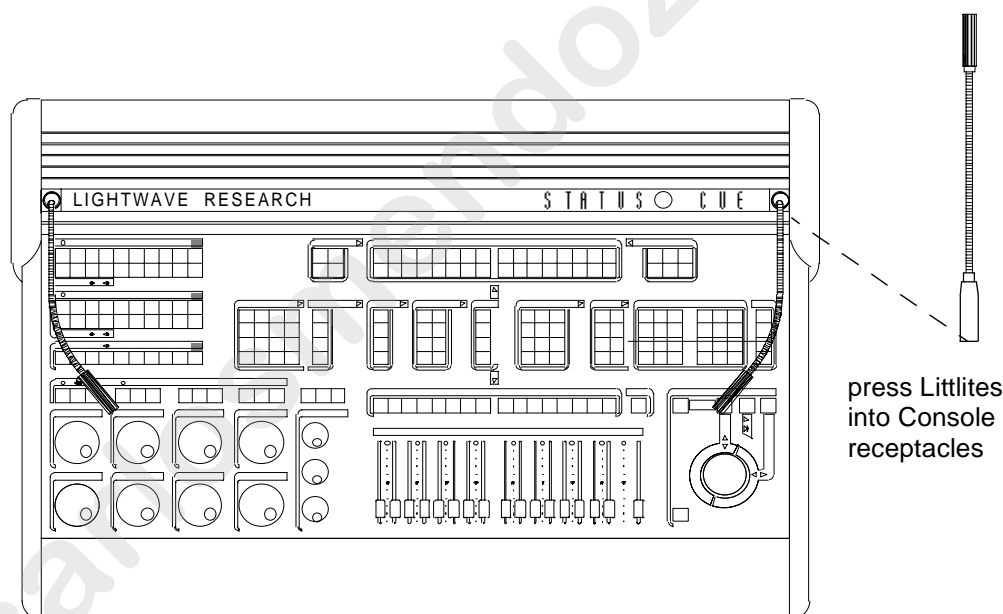

Figure 1.9. Littlites Attached to Console
2. Align the three pins on the Littlites with their female receptacles on the Console and press the Littlites into the Console. Refer to Figure 1.9. Bend the goosenecks to position the light where needed.